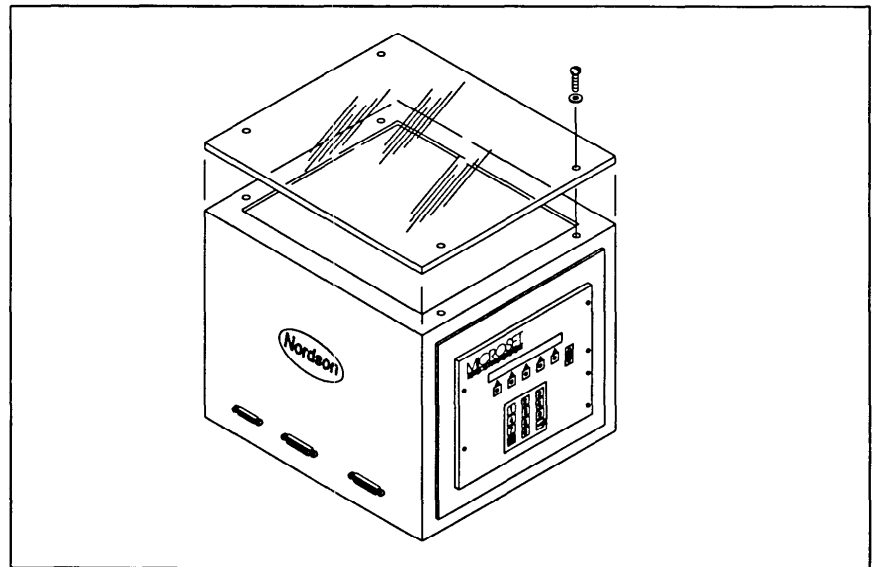

Figure 1. Removing the clear cover
3. Remove the clear cover by removing the four screws. See Figure 1.